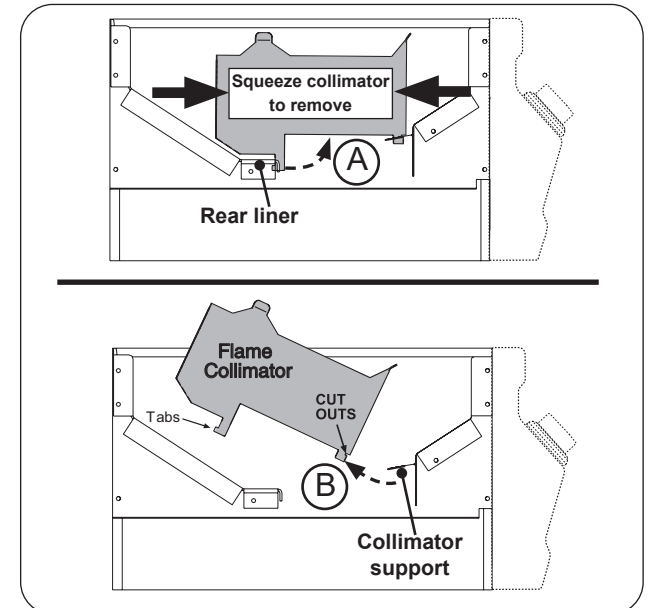

Fig. 33-2 Flame collimator removal
2. Lift up the interior protection plate from the left side, then lift up from the right side (see Fig. 33-2, A and B).
3. While lifting the plate upward, flex the collimator inward to completely free the protection plate (see Fig. 33-2, C).